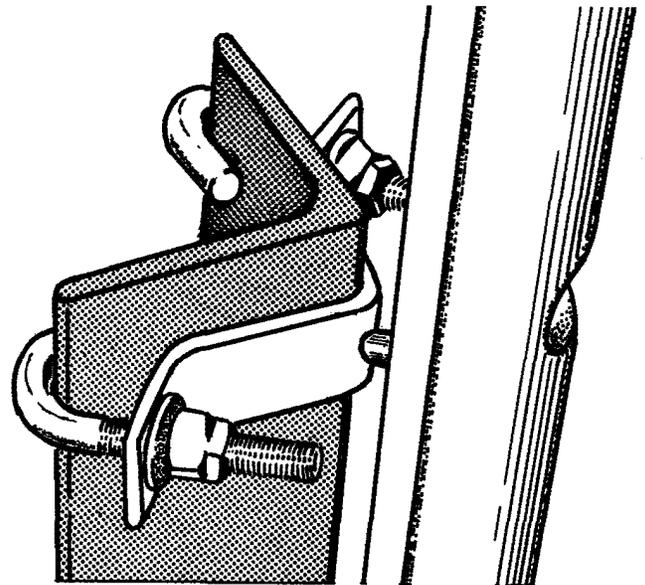
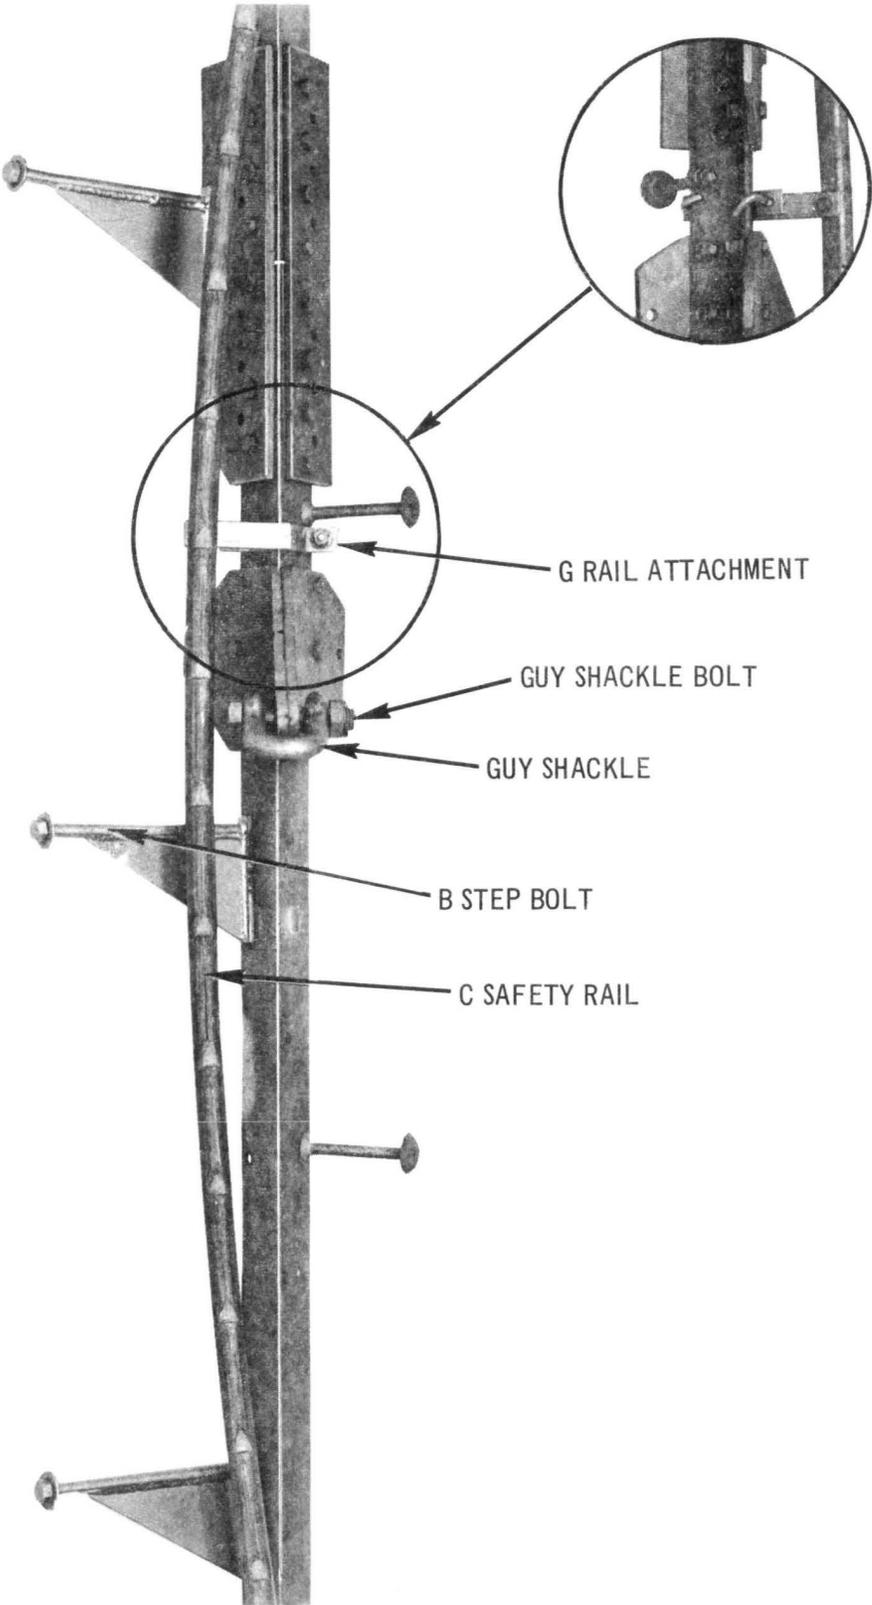

Fig. 6
Fig. 12A
2.12 The B Step Bolt (Fig. 5) is intended for use at guy takeoff points, to replace the ordinary step bolt furnished with the tower. They are installed in back of the curved rail sections, as shown in Fig. 12A.
3.03 Connections to legs fabricated from bent plates or structural angles are made with J bolts. The length of bolt needed will vary with the size of the leg. Size requirements are shown in Table 2. A typical connection is shown in Fig. 6.
3.14 Fig. 12A shows the C rail section installed on a B Guyed Tower. Note that the bolts used to connect the guy shackle to the tower must be installed from left to right, i.e., the bolt head must be on the same side of the tower leg as the rail section. This must be done to ensure clearance for the safety sleeve. Fig. 12B shows the leg from the back, illustrating the J bolt and cap screw connections. All brackets using the J bolts are similarly connected. This is shown in Fig. 6.